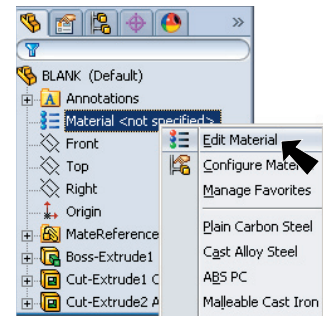

Fig. 26
Step 1. Right click **Material**  in the Feature Manager and click **Edit Material** , Fig. 26.